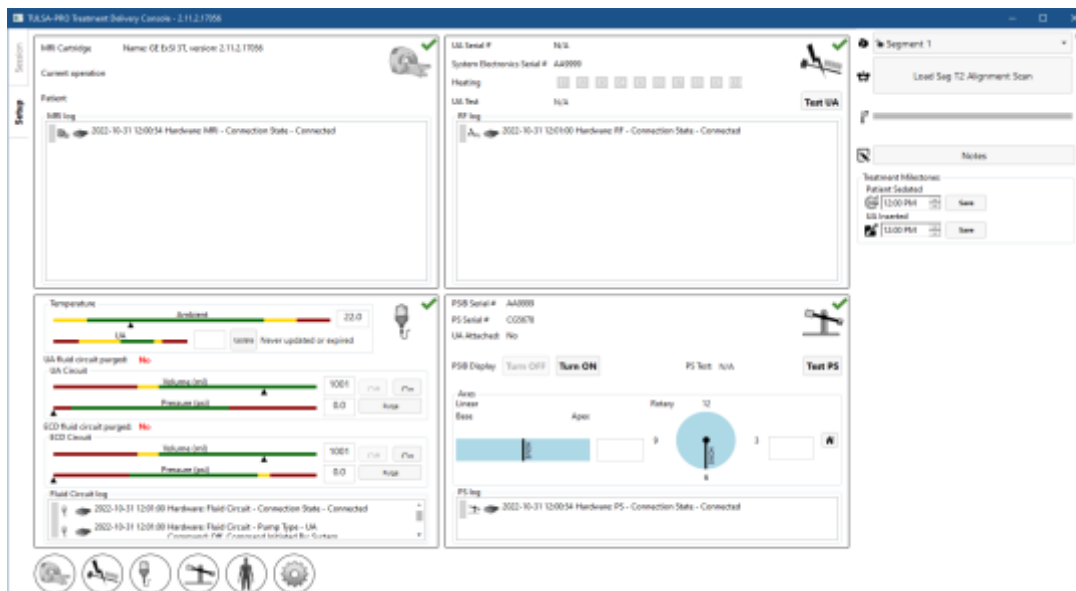

Figure 5: Setup workspace of the TDC software
- After selecting **New Session**, you will enter the **Setup** Workspace (*Figure 5*) where you can ensure all equipment is functioning properly before proceeding. A green checkmark will appear in the MRI quadrant of the Setup Workspace if the TDC computer and MRI host can communicate with each other, and a patient is currently open with the TULSA-PRO® MRI sequence protocol on the MRI console.